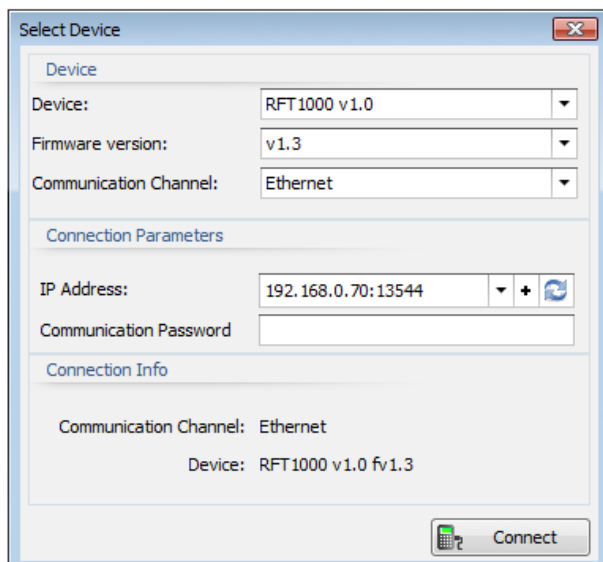

Fig. 6 Select device window in RogerVDM software
4. In the opened window (fig.6) select *RFT1000 v1.0* device, firmware *1.3* and *Ethernet* communication channel.